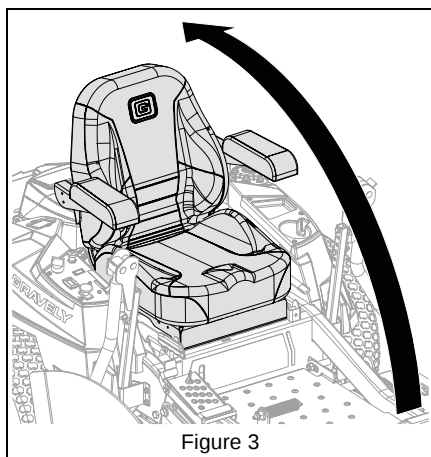

Figure 3
5. Return seat to operating position. Ensure seat latch is secure. See Figure 3.